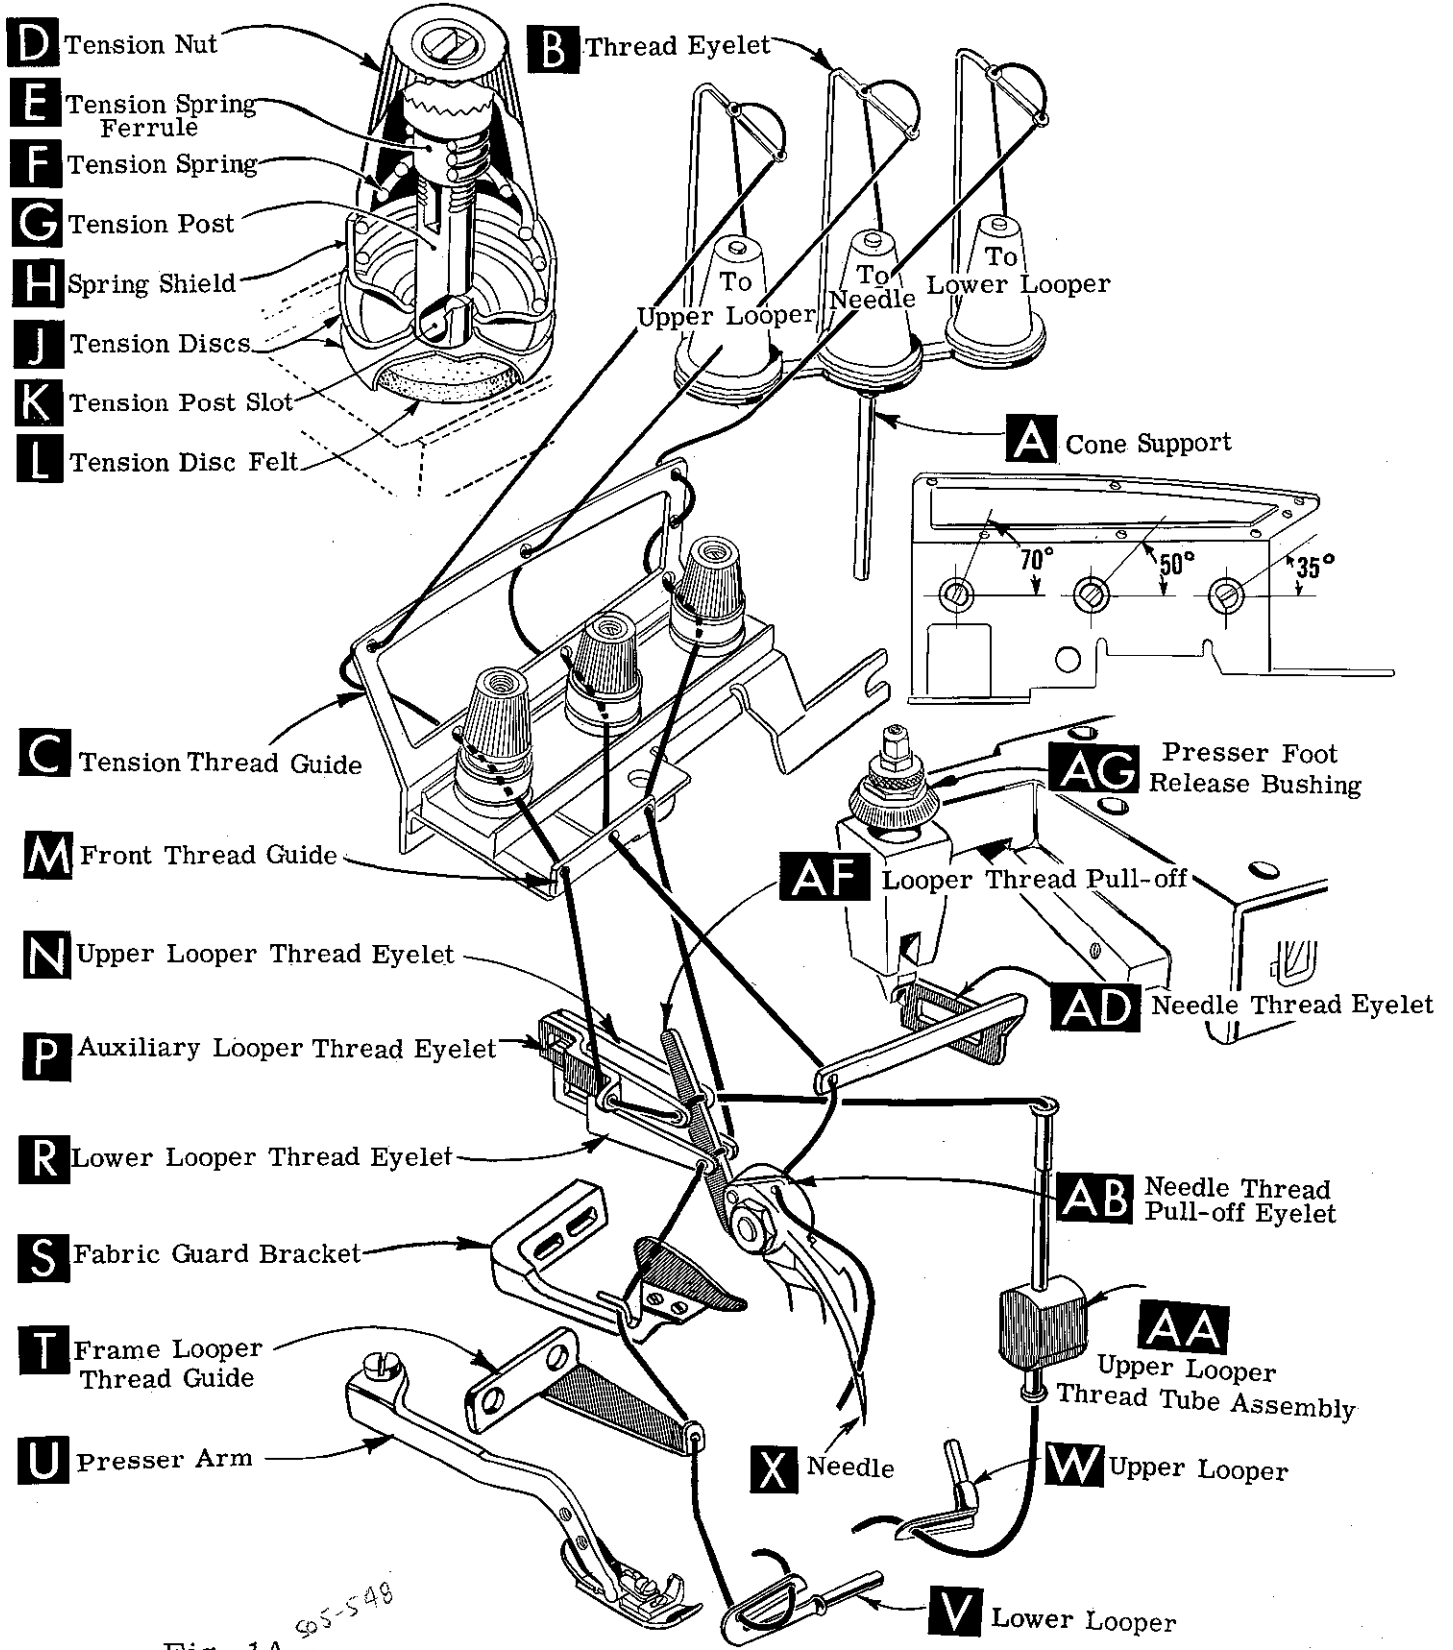

Fig. 1A 95-548
NOTE: Refer to Fig. 1 for threading Styles 39500 FJ and JJ or refer to Fig. 1A for threading Style 39500 FL.
Double end of thread and lead it through the left eyelet of front thread guide (M, Fig. 1A). Turn handwheel until point of upper looper (W, Fig. 1A) is all the way to the left. Lead thread through auxiliary looper thread eyelet (P) from back to front, then through both eyes of upper looper thread eyelet (N) from left to right. NOTE: thread must pass in front of looper thread pull-off (AF).